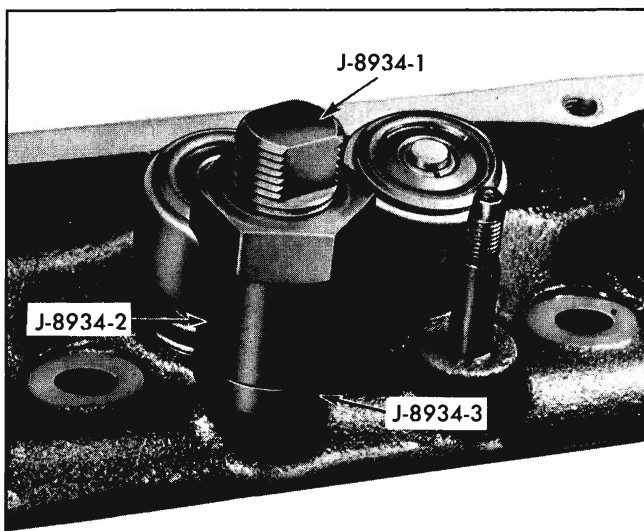

Fig. 6-28 Tools Positioned to Remove Rocker Arm Stud
6. Thread $\frac{7}{8}$ " standard nut on stud remover and turn nut until rocker arm stud is out of cylinder head (Fig. 6-28).